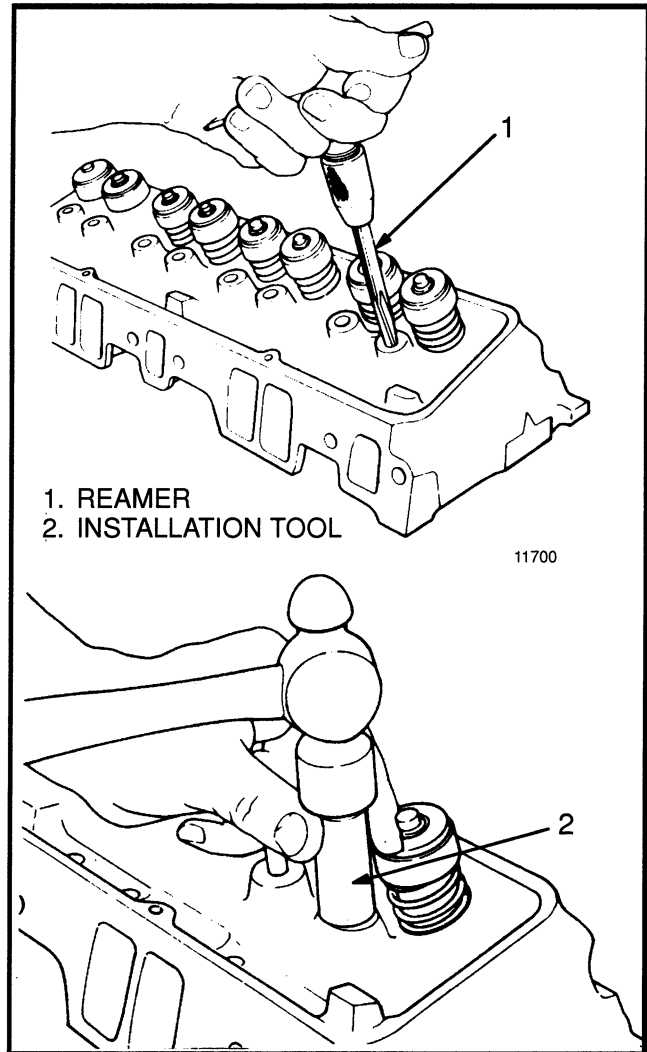

FIGURE 4. INSTALLATION OF A STUD FOR A ROCKER ARM
2. Use a reamer of the correct size for the new oversize stud. Apply SAE 90 lubricant to the new stud during installation. Install the new stud as shown in FIGURE 4.